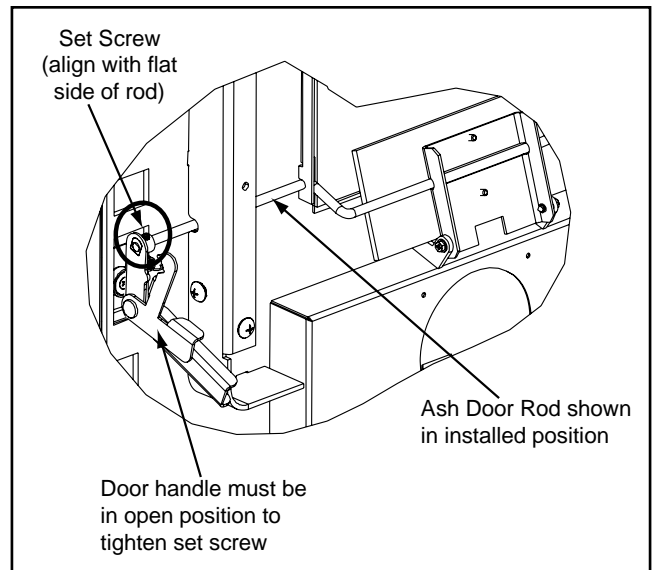

Figure 21.3
6. Install door handle by placing over rod and sliding to the right. While in an open position, line up the set screw with the flat side of the rod and tighten the set screw using a 3/32 Allen wrench. The set screw needs to be snug. **Figure 21.3.**